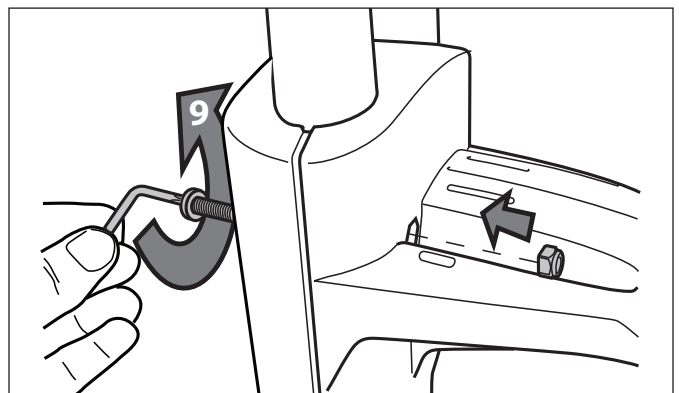
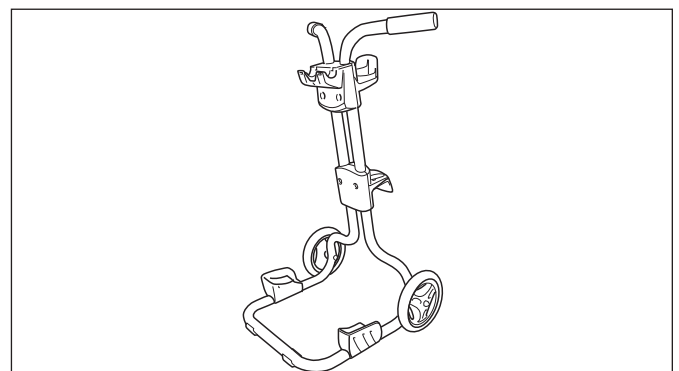

Figure 8. Secure the Cable Hook Plate
Figure 9. Transport and Storage Caddy Assembled
- Secure the cable hook plate using two (2) bolts and two (2) nuts and tighten with Torx wrench. Refer to Figure 8. The transport caddy is now ready to use as shown in Figure 9.